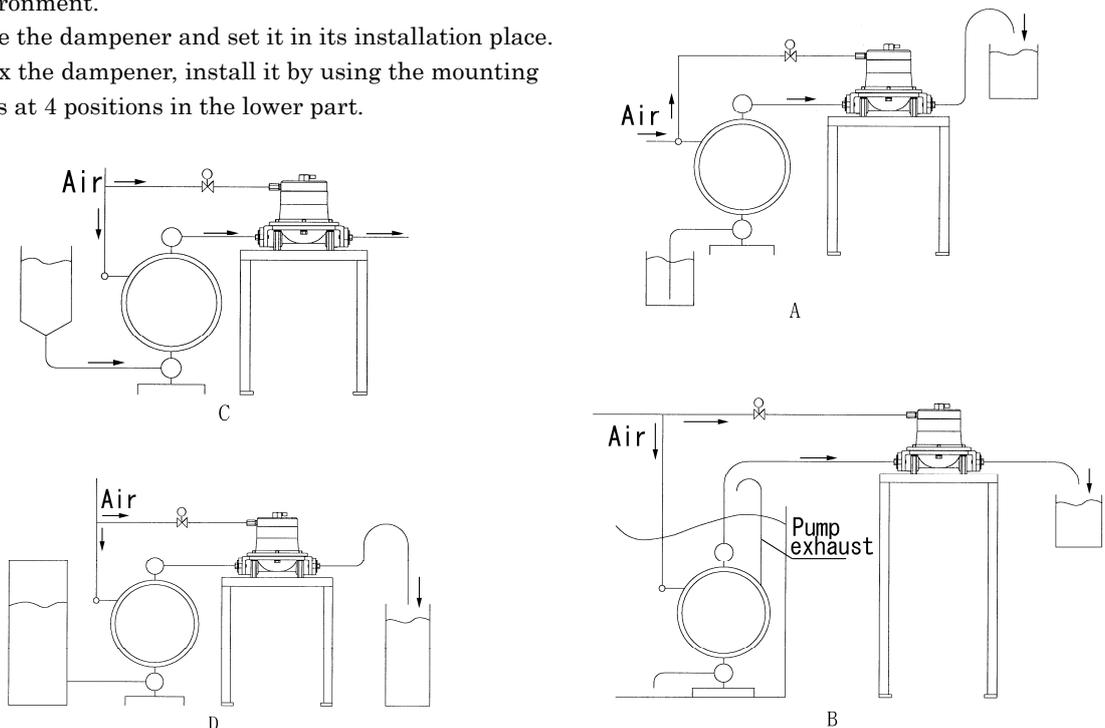

Fig. 3.1
1) Select a proper place to install the dampener by referring to Fig. 3.1 and secure a space.